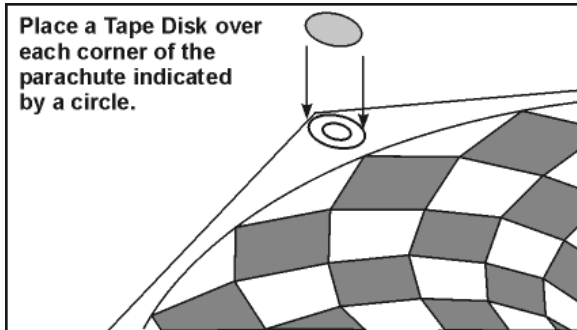

Figure 14
14. Locate the 6 **Tape Disks**. Find a circle on a corner of the parachute and stick on one Tape Disk as shown in **Figure 14**. Repeat for the other 5 corners. (**Thing-a-ma-FACT: Tape Disks** are used to provide added strength to the corners of the parachute, where the parachute lines (shroud lines) will be attached)